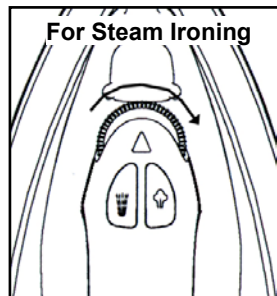

Fig. 3
5. Turn the variable steam control to the right to increase the amount of steam. (See figure 3) When using extra steam, the iron uses more water and it may be necessary to fill the tank more often. For refilling the iron with water follow the steps listed above.